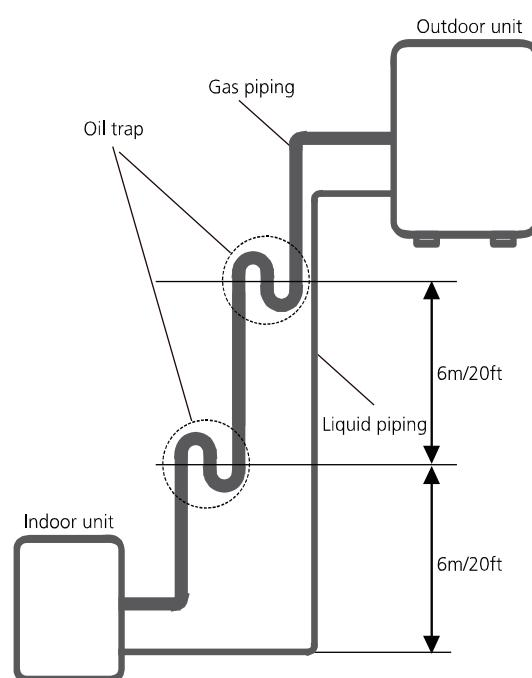

Fig. 6.3
-It is recommended that vertical suction risers not be upsized. Proper oil return to the compressor should be maintained with suction gas velocity. If velocities drop below 7.62m/s (1500fpm (feet per minute)), oil return will be decreased. An oil trap should be installed every 6m(20ft) of vertical suction line riser. (See Fig. 6.3)